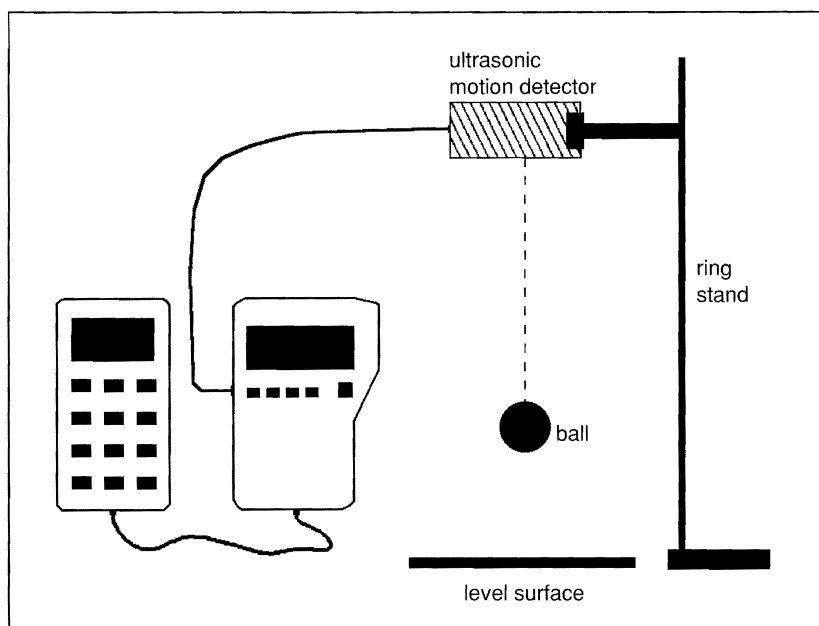

Figure 1: Equipment Setup
To connect the equipment as shown by Figure 1:
- 3 Secure the motion detector to a ring stand, using a clamp, as shown in Figure 1. Be sure that the motion detector is level and facing a hard, level surface.